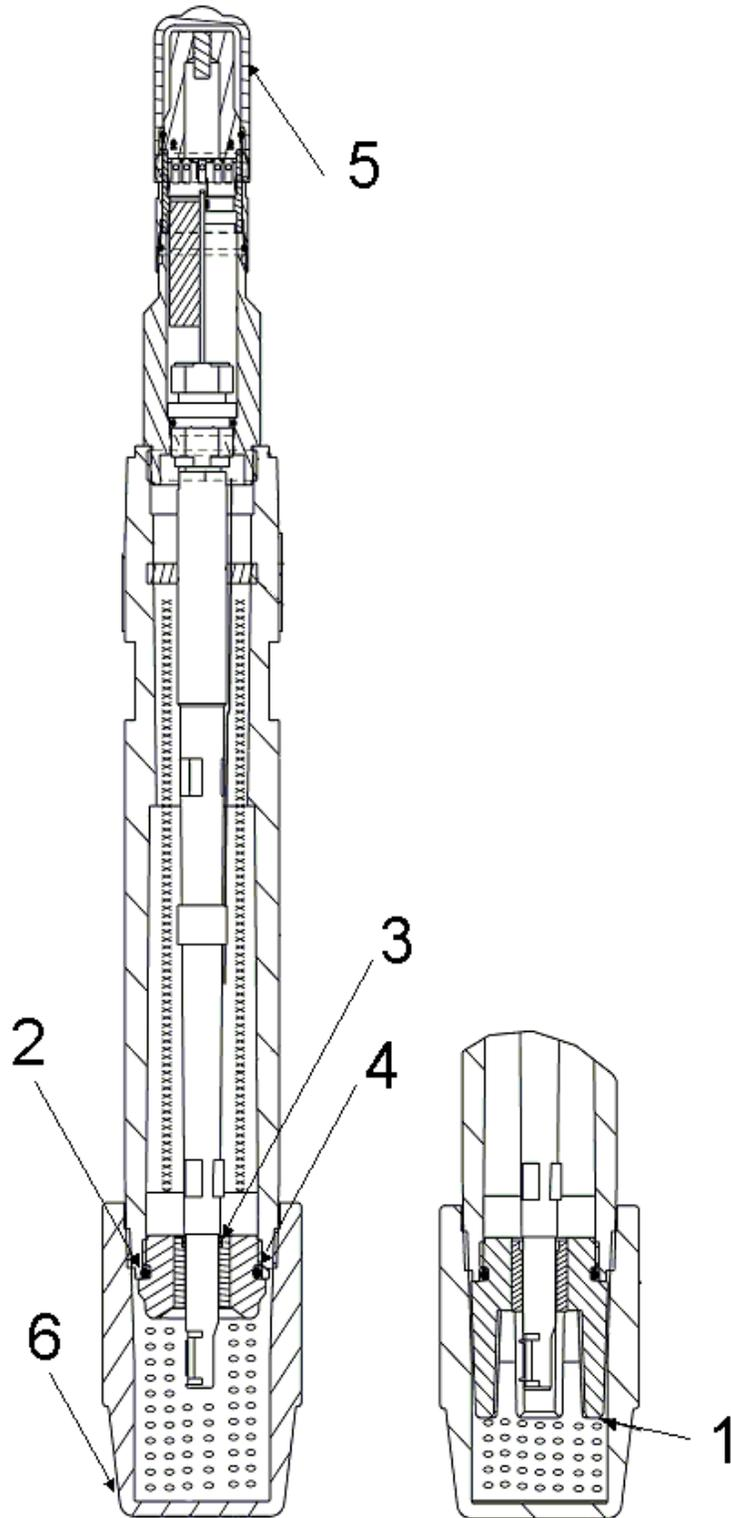

Figure 10-1 Durafet III parts
Guarded Electrode Tip (immersion) see Figure 10-1, item 1	51204992-001
Smooth Electrode Tip (In-line) see Figure 10-1, item 2	51204993-001
Frit O-Ring (small) see Figure 10-1, item 3	51198302-001
Frit O-Ring (large) see Figure 10-1, item 4	31074364
ESD Protective cap see Figure 10-1, item 5	51500474-003
Storage Cap see Figure 10-1, item 6	51453164-001